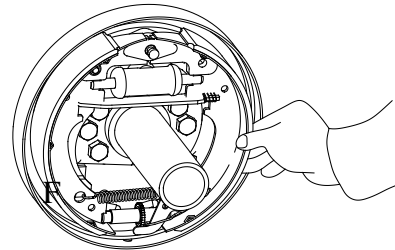

Fig. 2-13
(4) Remove the primary and secondary shoes. At the same time, remove adjuster spring. (See Fig. 2-13)